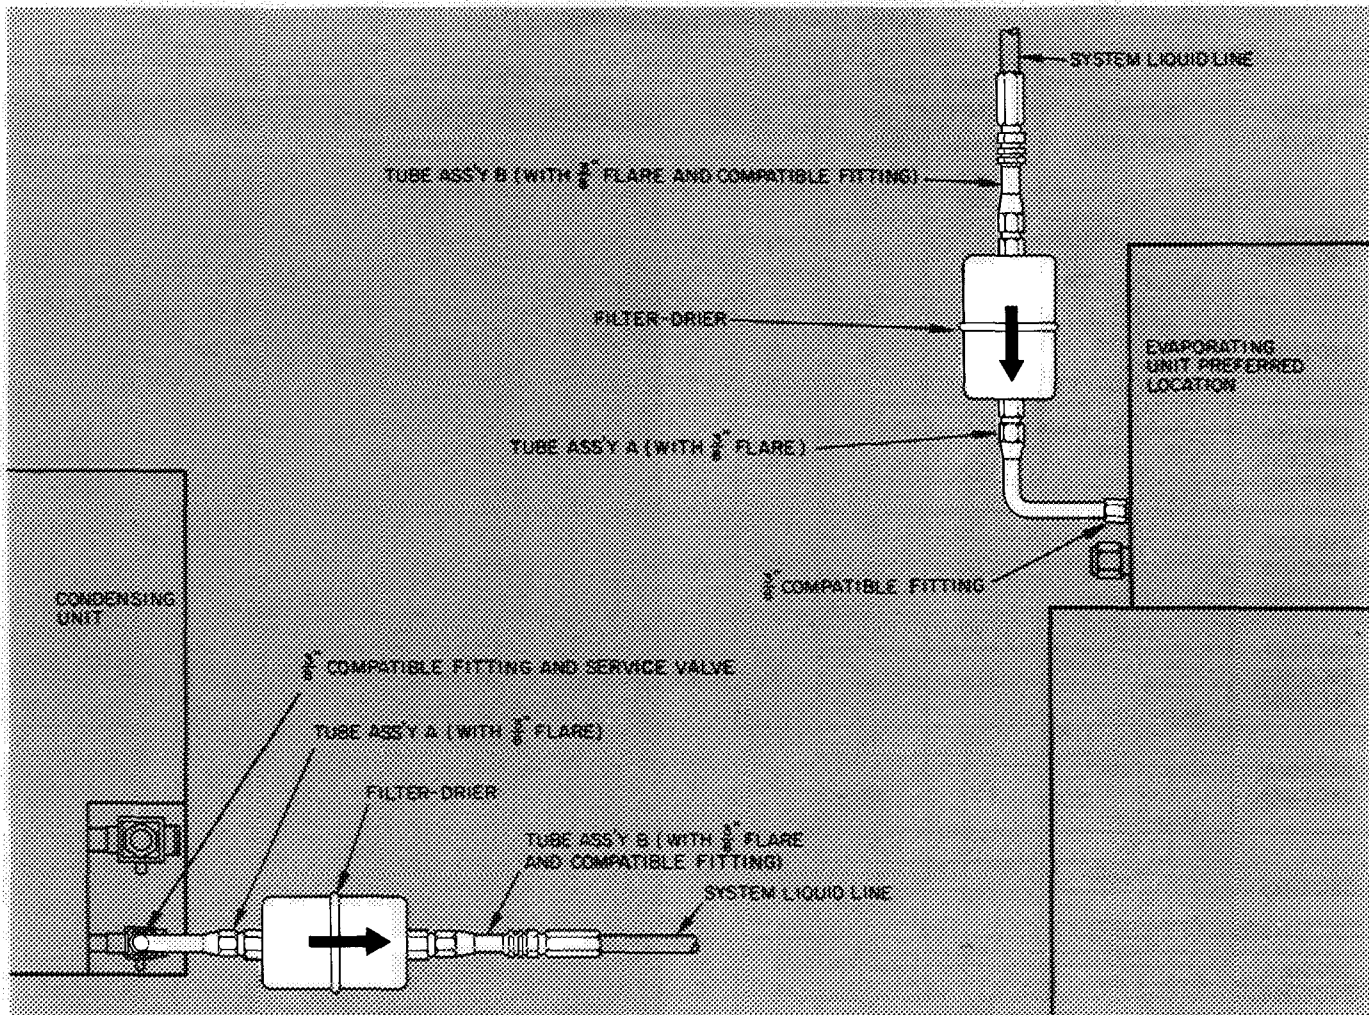

Fig. 2 – Filter-Drier Assembly Installation (38CC, 38CE045 and 005)
**38CE045,005 AND 38CC UNITS** – A filter-drier package is shipped with these units. Included with filter-drier are 2 short length tubing assemblies that are equipped with flare and/or Compatible Fittings. Use tubing assemblies to install filter-drier into system liquid line at evaporator or condensing unit. See Fig. 2. Connect tubing assembly A (90° assembly) to evaporator or condensing unit liquid line Compatible Fitting. Complete the filter-drier installation as shown.